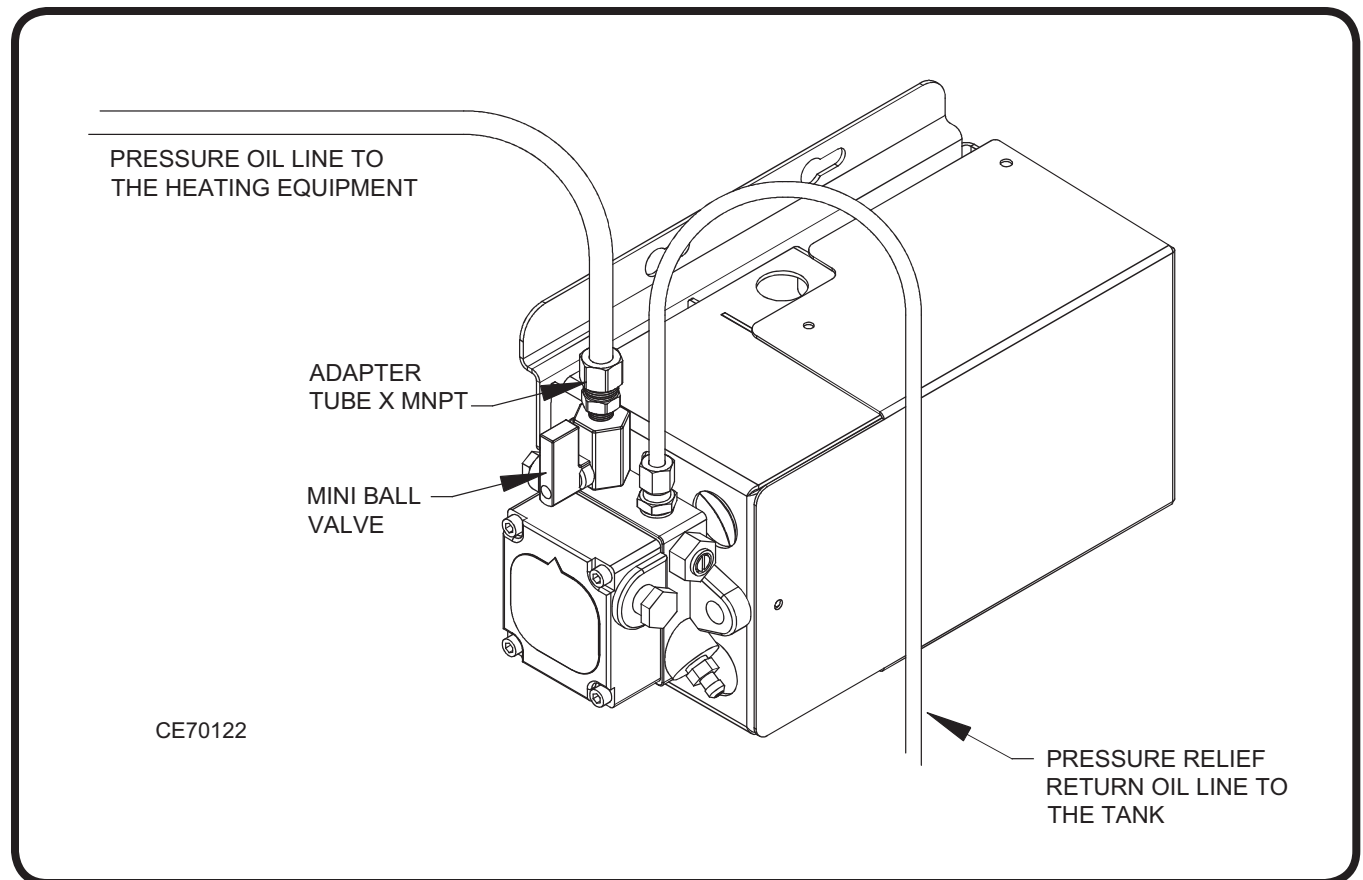
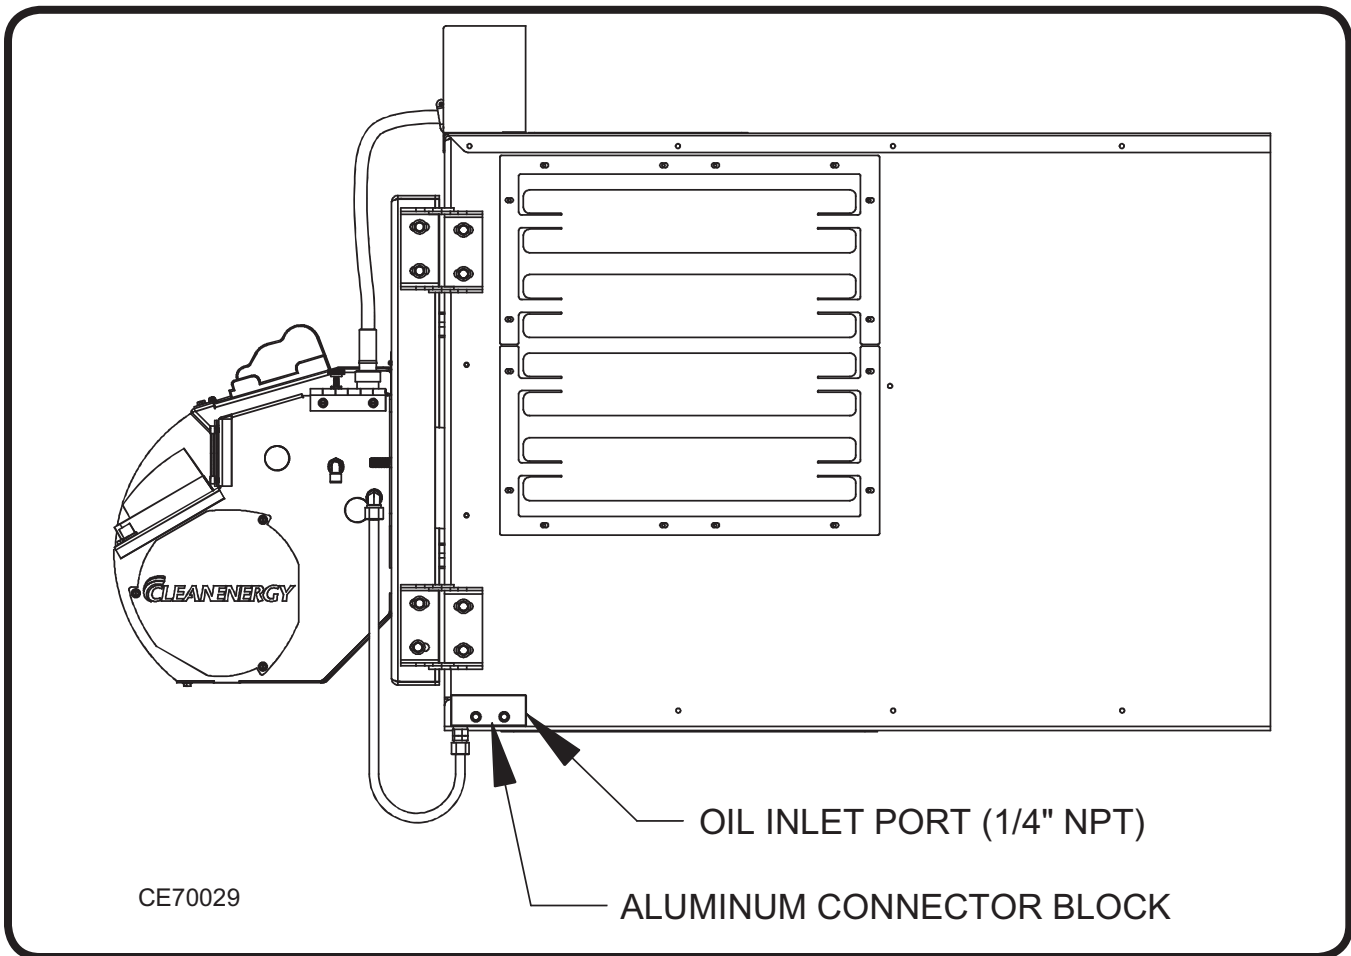

Figure 21: Metering Pump Oil Line Connections
Figure 22: Connecting the Pressure Oil Line to the Connector Block
- (1) Refer to Figure 21.
- (2) Determine the length of copper tubing needed for the pressure line (from pump to furnace) and use the appropriate sized tubing. If the pressure line is less than 100 feet, 3/8" copper tubing can be used. If the pressure line is greater than 100 feet, use 1/2" copper tubing. An adapter fitting may be needed when using 1/2" copper to make the connection between the tubing fitting and mini ball valve (50039 - 1/8 MNPT x 1/4 FNPT).
- (3) It is ideal to have the pressure oil line sloping up from the pump to the furnace. This reduces the risk of air pockets and nuisance shut downs.
- (4) Refer to Figure 22.
- (5) Connect the pressure oil line to the aluminum connector block on the side of the furnace.